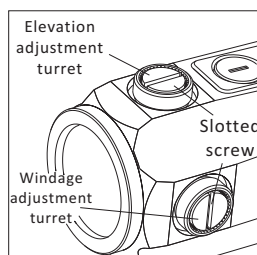

Fig 5
1. On top of the sight is the elevation adjusting turret, windage adjusting turret is on the right side (see Fig5). The sight has been factory adjusted for approximate zero.